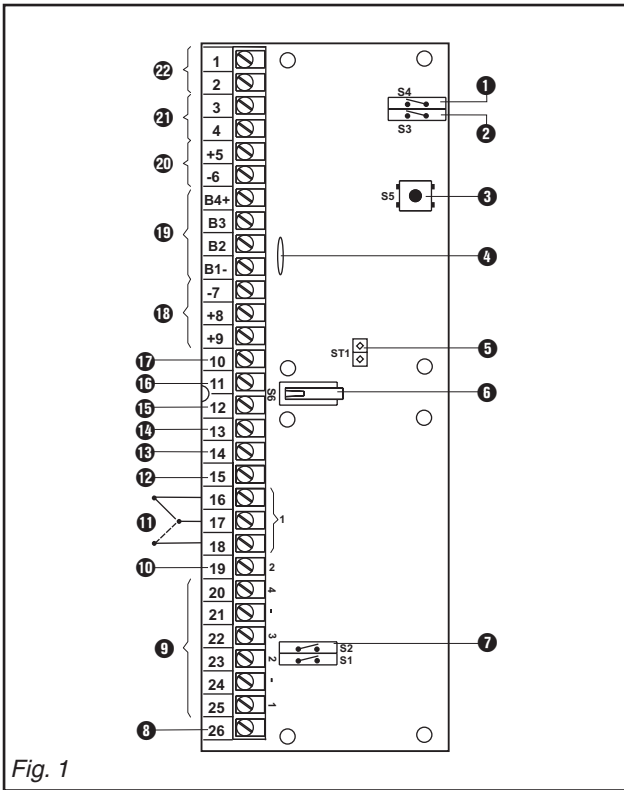

Fig. 1
3.1 Product overview (fig. 1)
- ① Switch for the «auto shunt» function
- ② Switch for the type of reader
- ③ Addressing button
- ④ Thermofuse 12 V; 650 mA
- ⑤ Plug connector for external tamper contact
- ⑥ Tamper contact
- ⑦ Switch for programming glass breaks alarm inputs
- ⑧ Stand alone Input
The Tamper connector (fig. 1; ⑤) must be connected to an external tamper contact or be short-circuited.
In the stand alone mode, a valid card(site code) read by reader 1 (fig. 1; ②), Will activate the relay output 1(fig. 1; ①) directly for 5 seconds.
In the auto-shunt mode, an activation of the output 1(fig. 1; ①) bypasses the Input 1(fig. 1; ④) until it is in a quite state again. The bypass time is max. 40 s after which the Input 1 will be restored.
If Input 1 is not in a quite state after 30 s the buzzer output (fig.1; ⑤) will be activated.
The open collector output «Auto-Shunt function» (fig.1; ⑫) is activated as long as Input 1 is bypassed.